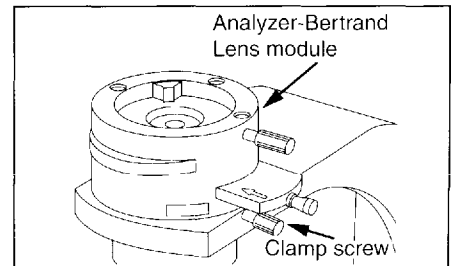
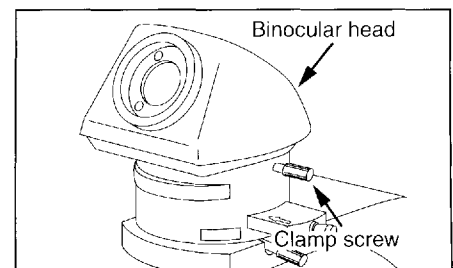

Figure 1
Figure 2
- As a first step, remove all components from the shipping container and remove the packing materials and place the microscope frame on a stable work surface. Place the analyzer-Bertrand lens module onto the frame and tighten the clamp screw to secure the module.(Fig.1) Next, place the binocular head (MA952) or trinocular head (MA953) on the top of the analyzer-Bertrand lens module and tighten the clamp screw while the head is in the correct position as shown right.(Fig.2)